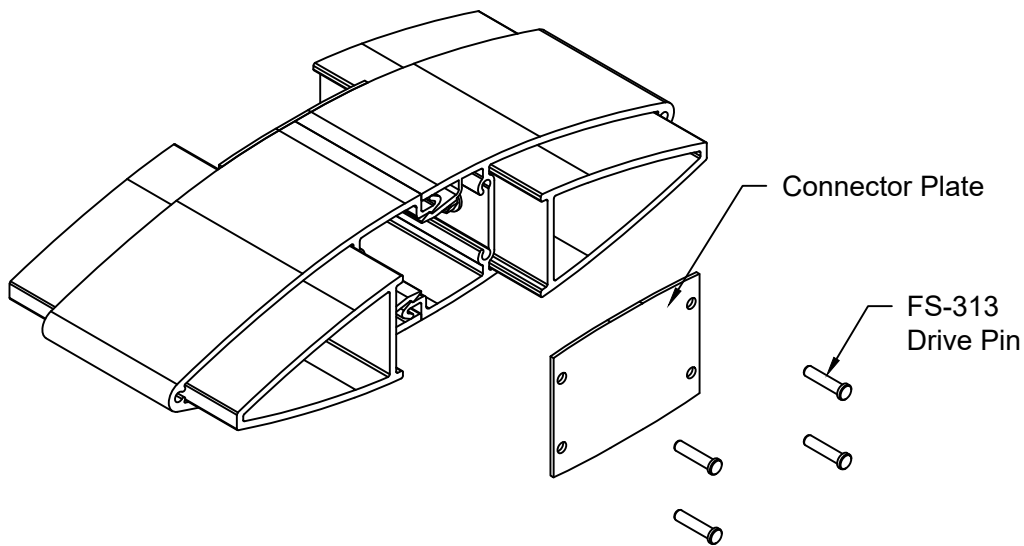
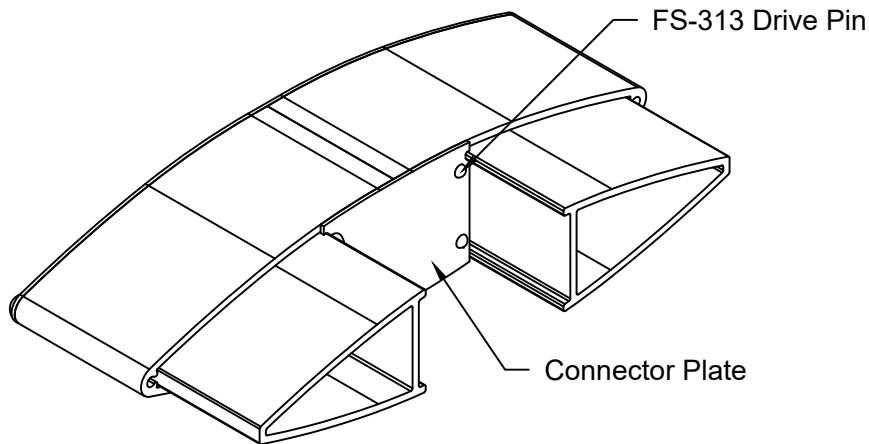

FIGURE 41
FIGURE 43
- 3) Assembly the two sections of the blade and splice together, then attach a connector plate on each side of intermediate (SEE FIGURE 41 & 42) and splice side of jamb (SEE FIGURE 43, page 23). Connector plate will attach to blade using (4) FS-313 fasteners. See parts list for connector plate part number for each blade assembly.